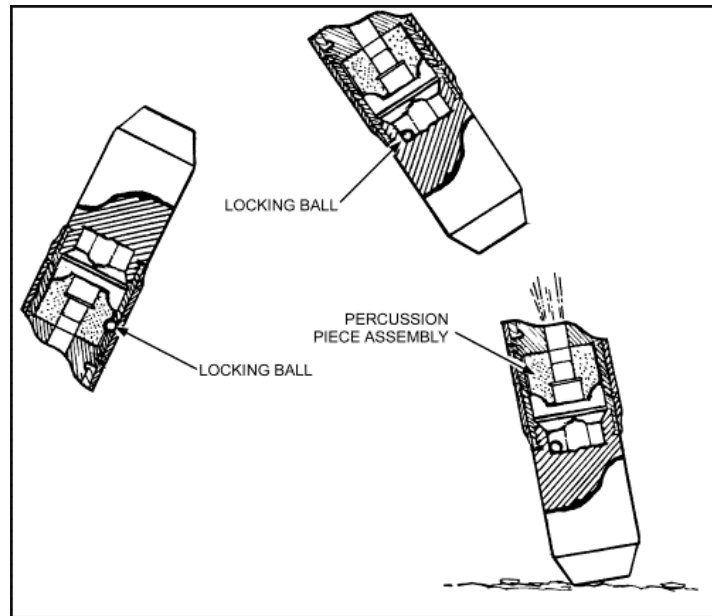

Figure A-16. Safety device.
(1) The 22-mm cartridge consists of the projectile with stabilizer fins and cartridge case. The projectile body contains the impact fuze and a smoke signal charge. The propelling and ejection charges are contained in two separate chambers located in an assembly threaded onto the base of the cartridge case. A flash hole between the chambers permits ignition of the propelling charge by the ejection charge.
(2) When the 22-mm subcaliber cartridge is inserted into the sabot, the sabot is ready for firing. The protective plastic cap covering the percussion cap of the subcaliber cartridge is removed before dropping the sabot into the mortar barrel. When fired, the cartridge's percussion cap strikes the firing pin and is ignited. The percussion cap ignites an ejection charge in the jet housing assembly. The propelling gases emerge through the eight holes in the jet screw assembly and initiate travel of the sabot and subcaliber cartridge up the mortar barrel. At the same time, the ejection charge ignites the subcaliber projectile propelling charge contained in the jet housing assembly. This propels the subcaliber projectile out of the cartridge case and through the 22-mm barrel of the sabot. When the sabot clears the muzzle, the subcaliber projectile clears the barrel. The sabot impacts on the ground within 15 meters of the mortar while the subcaliber projectile continues its trajectory.
(3) After the subcaliber projectile has left the sabot barrel, the impact fuze is activated. The percussion assembly, which contains the primer for the fuzing mechanism, is held in position within the ignition case by two safety balls. When the projectile clears the sabot barrel, the safety balls move outward, freeing the percussion piece. The stabilizing fins open as the projectile clears the sabot barrel, providing in-flight stability. When the projectile ascends to its maximum ordinate, a locking ball keeps the percussion piece from moving forward, preventing the cap from contacting the pin. This feature precludes premature functioning should the projectile strike a tree branch or other object (Figure A-16).